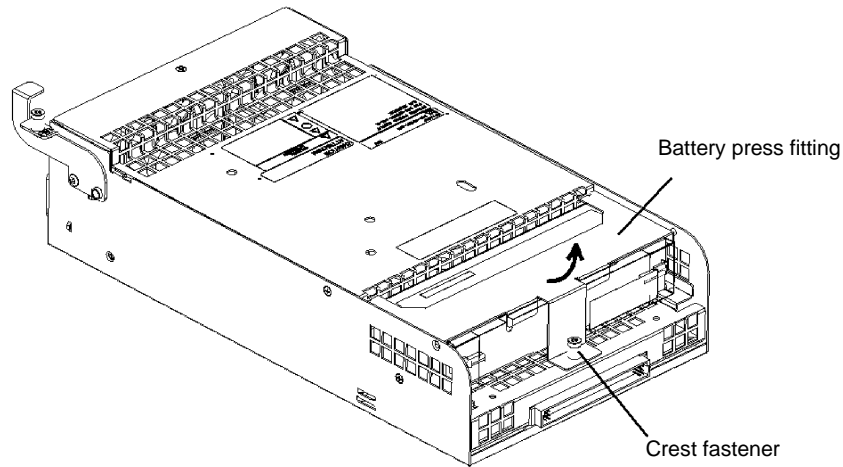

Figure 3-21. Removing the Battery Press Fitting
7. Remove the crest fastener securing the battery press fitting to the power supply. Then remove the battery press fitting. See Figure 3-21.